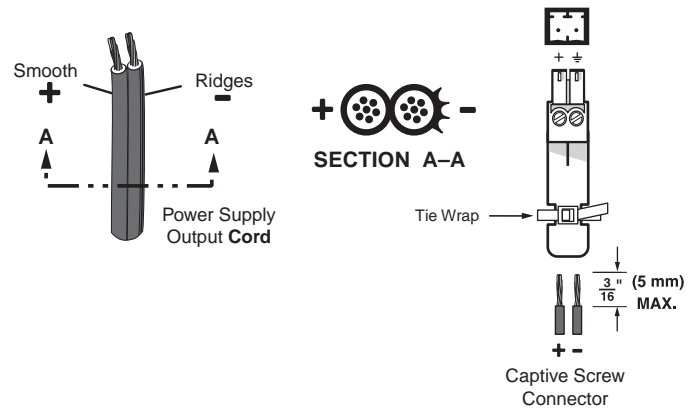

Figure 10 — Power connector wiring
Figure 10 shows how to wire the power connector.
**CAUTION** Power supply voltage polarity is critical. Incorrect voltage polarity can damage the power supply and the MTP. Identify the power cord negative lead by the ridges on the side of the cord (figure 10).